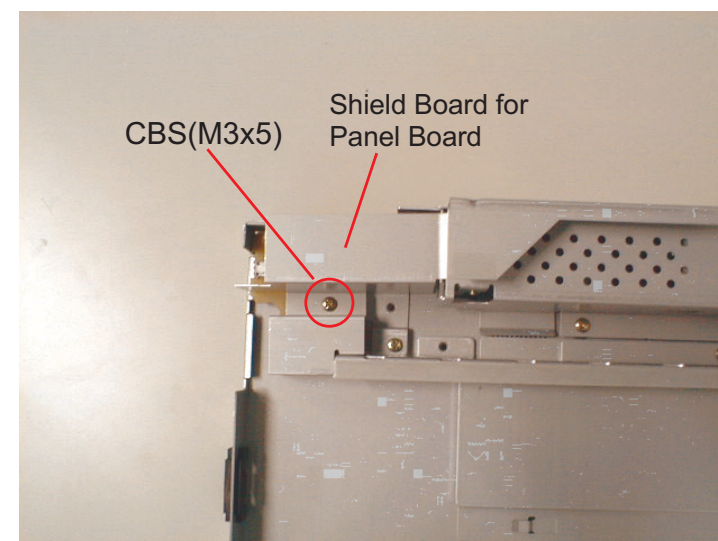

Figure 4-28. Panel Board Removal(1)
4. Remove one gold screw(CBS, 3x5) and the shield board of the panel board. (See figure 4-28)